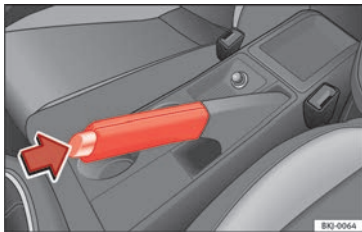

Fig. 180 Handbrake between the front seats.
- Pull the handbrake lever up firmly »» Fig. 180.
- Pull the lever up slightly and press the release knob in the direction of the arrow »» Fig. 180 and guide the handbrake lever down fully »» .